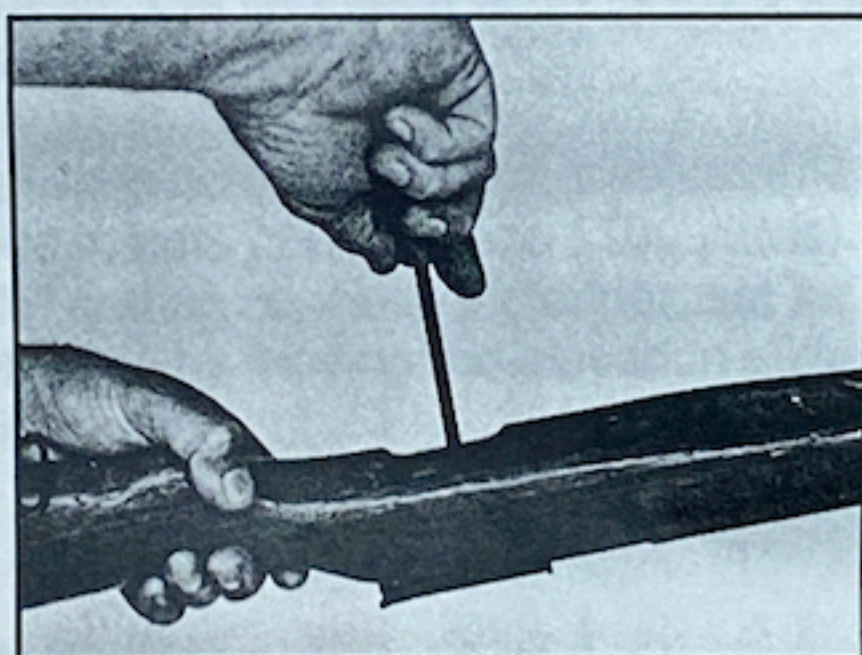

Figure 19
3. With right hand hold rear of receiver assembly tightly against table with screwdriver or punch. With left hand, lift up firmly on stock separating the two pieces. (Figure 19)